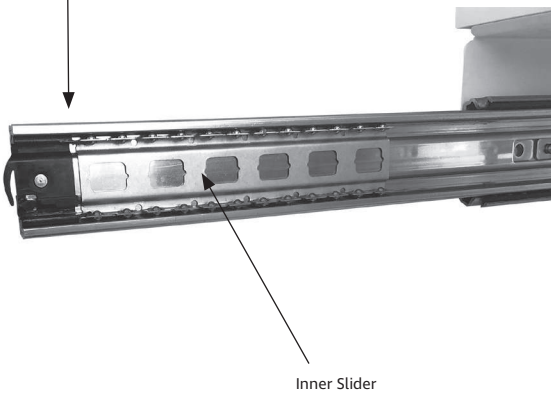

FIG 4
- Reattach the runner inner – Refer to FIG 4.